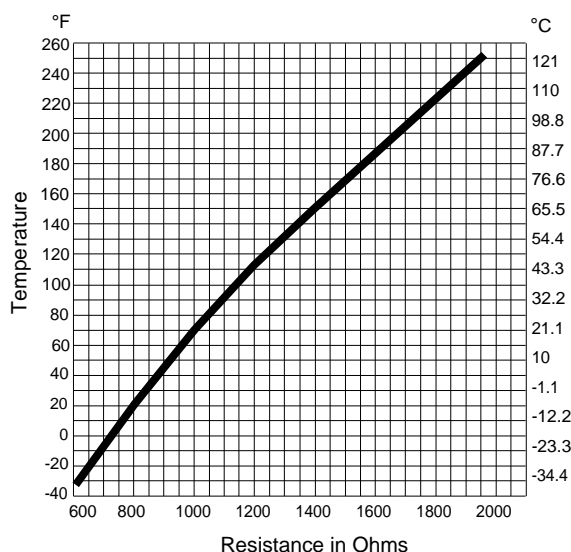

Figure 8: Temperature vs. Resistance Chart for the SET189A Series Sensor
- b. Disconnect the sensor from the control. Using an ohmmeter, measure the resistance across the two sensor leads. Consult the Temperature vs. Resistance Chart (Figure 8) to verify sensor conformity.